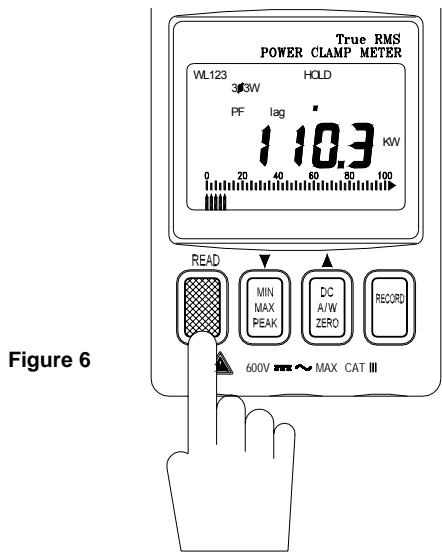

Figure 6
A. Measure $W_{R(L1)} / P_{FR(L1)}$ (refer to figure 6).